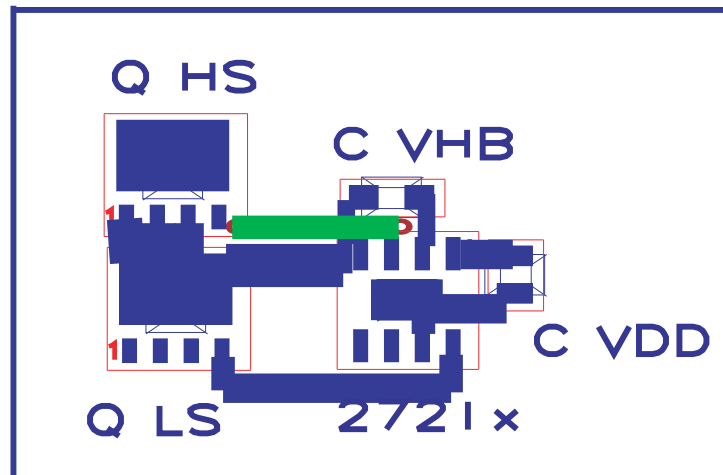

Figure 9-1. UCC27211 Component Placement
- Locate the $V_{DD}-V_{SS}$ and $V_{HB}-V_{HS}$ (bootstrap) capacitors as close as possible to the device (see Figure 9-1).
- Pay close attention to the GND trace. Use the thermal pad of the DDA and DRM package as GND by connecting it to the VSS pin (GND). The GND trace from the driver goes directly to the source of the MOSFET but should not be in the high current path of the MOSFET(S) drain or source current.